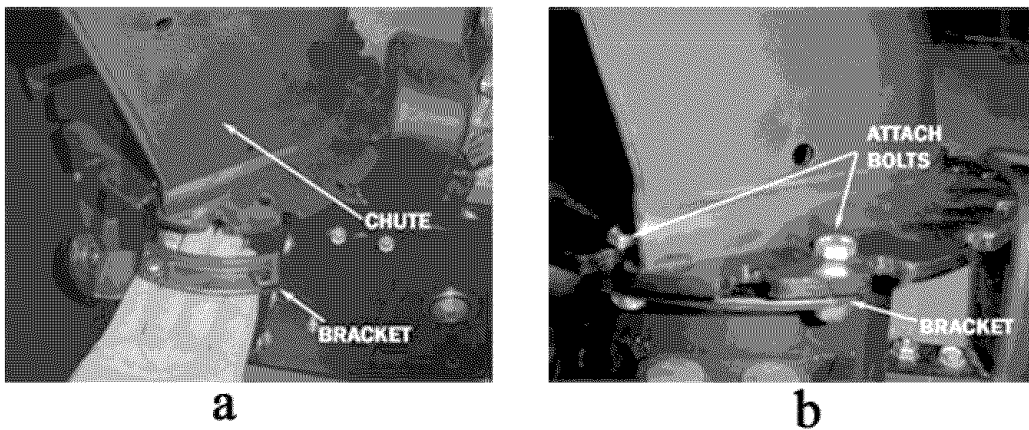

Figure 1- Chute Assembly
1. Mount the chute to the snow output port on the snow thrower as shown in figure 1.